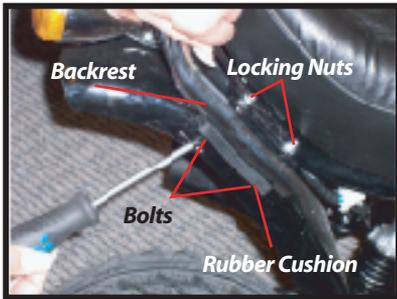

Fig. 1
1. Remove the backrest mounting hardware from the GAS CHOPPER SCOOTER™. Attach the backrest by aligning the backrest frame against the fixed mounting brackets, inserting the bolts through the rubber mounting cushion, through the backrest frame, and finally through the fixed mounting bracket on the GAS CHOPPER SCOOTER™. Secure all 4 bolts with self locking nuts. *Make sure the small rubber cushion is located between the heads of the bolts and the backrest frame and not between the backrest frame and the fixed mounting brackets. (Fig. 1)